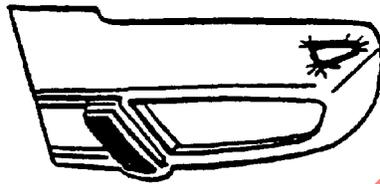

FIGURE 1—PLASTIC BUMPER COVER DAMAGE
**4.1 Preparation**—Cosmetic damage to plastic parts like bumper covers is very common. The puncture in Figure 1 has penetrated the cover causing several deep scratches and gouges. The following are general repair procedures that should be used for cosmetic or nonstructural damage.